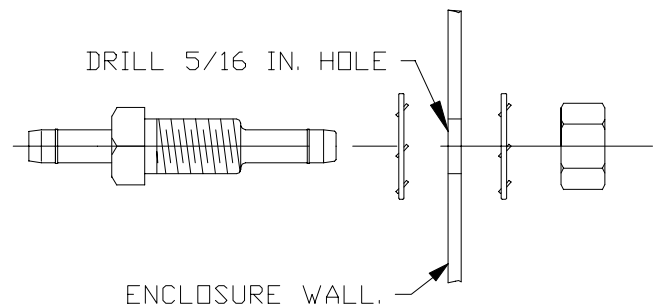

Figure 6
1. Select an appropriate location for the bulkhead union air connection. Drill a 5/16" hole and mount the bulkhead union (item 7) with two lock washers (item 9) as shown in Figure 6.